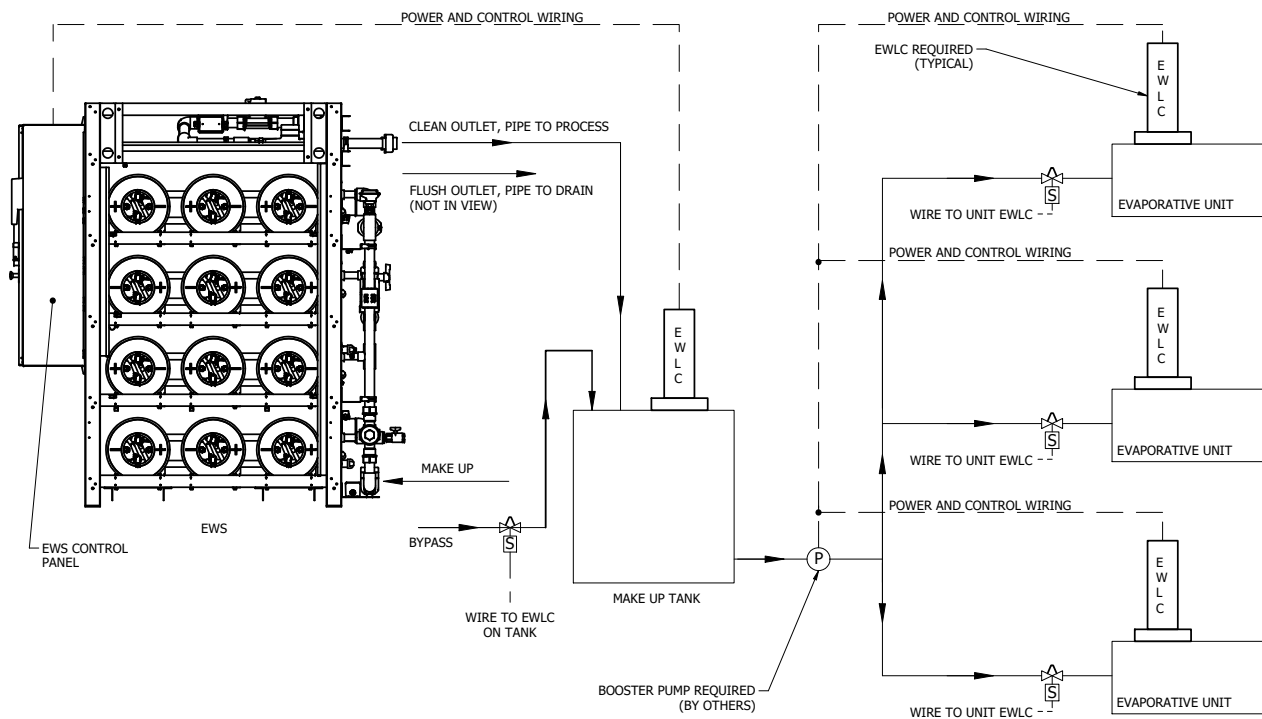

**Figure 5: EWS Field Piping/Wiring for Direct Feed to Single Evaporative Unit**
- EWS piped directly to a single evaporative unit (see Figure 5)
Each evaporative unit must be equipped with an Electronic Water Level Controller (EWLC). The EWLC starts Water Saver operation when makeup water demand is sensed and stops operation when demand is satisfied (see Figure 5). If the system uses a makeup tank (supplied by EVAPCO), the EWLC (supplied by EVAPCO) on the tank will start and stop Water Saver operation (see Figure 6 or Figure 7). Makeup water bypass piping and control valve are supplied and field installed (by others) and are required to ensure the evaporative unit(s) will always have makeup water available.
See Figure 5-Figure 7 for examples of typical bypass piping configurations. Wire the bypass valve to the 5 probe EWLC as shown in Figure 14. Bypass operation is controlled by EWLC.